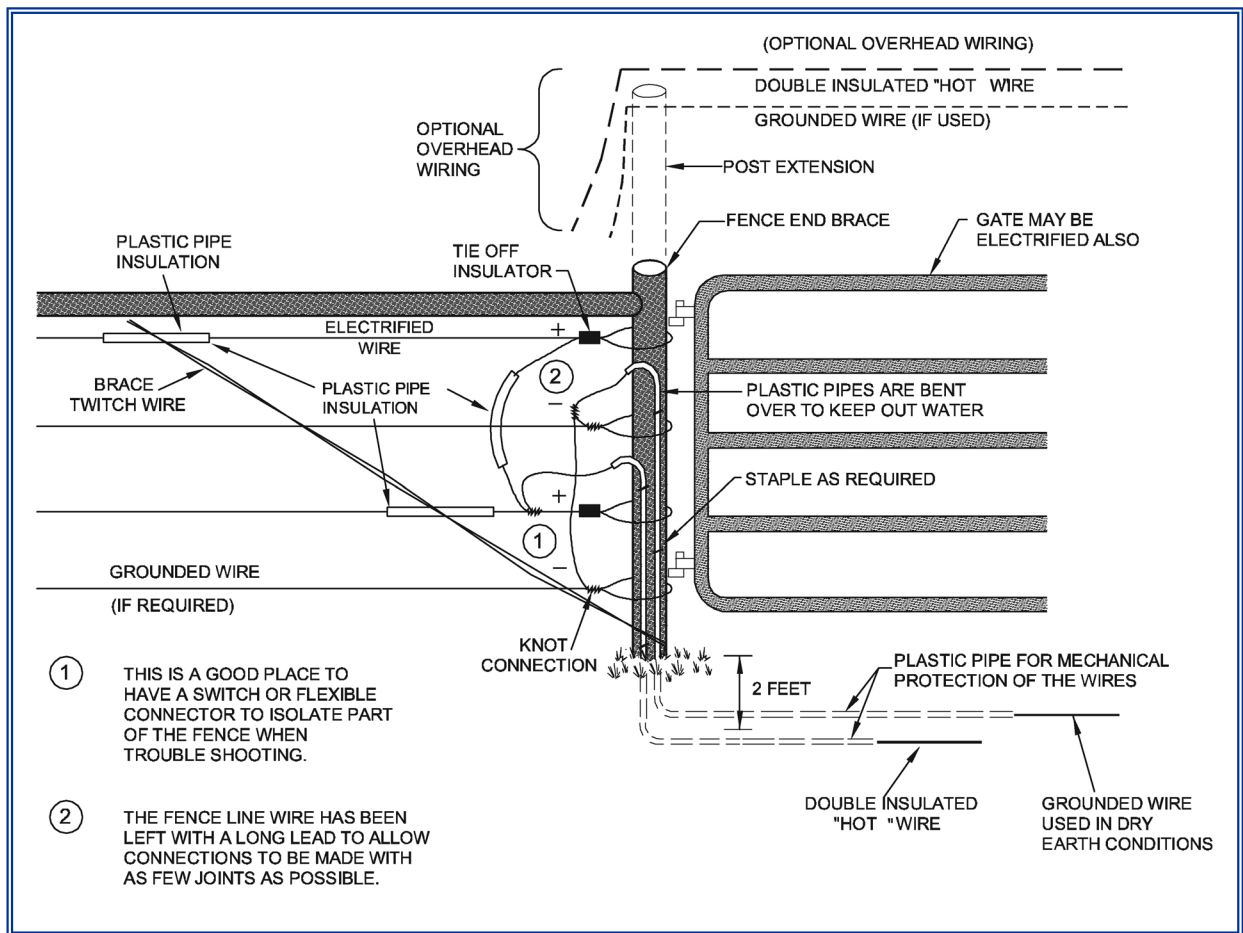

Figure 8 Wiring at a Gate
The width of gate openings may have to be larger than normal to overcome the animals' tendency to stay back from the electric fence. Refer to Factsheet No. 307.400-1 entitled *Gates, Cattleguards and Passageways* for examples of gates for electric fences, and Figure 8 in this factsheet for wiring at a gate.
- **under the gate.** This is usually the simplest method but requires good insulation and mechanical protection of the wire. Refer to Figure 8.